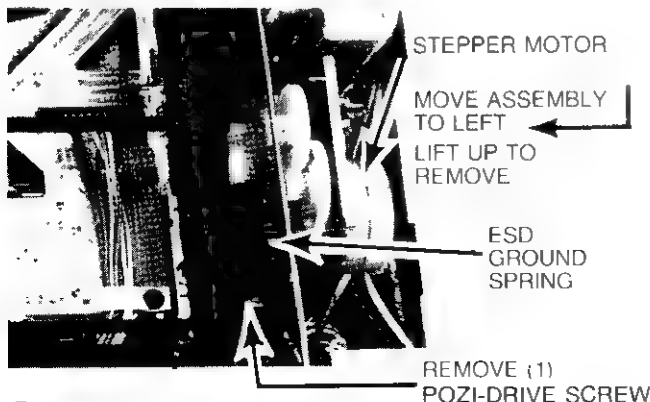

Fig. 13—Arm Drive Assembly
1. With cabinet top and front panel removed—remove one (1) pozi-drive (+ head) screw Fig. 13.
3. Remove stepper motor from arm drive assembly by removing two (2) small pozi-drive (+ head) screws and lay stepper motor to the side out of the way.